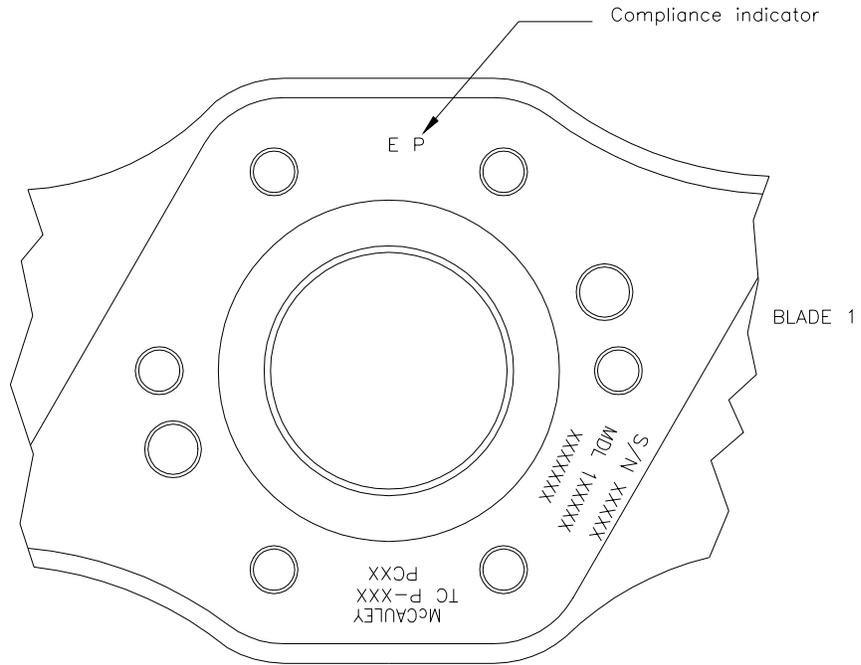

Figure 2
G. Stamp propeller hub with compliance indicator "P" at initial inspection per Figure 2 using 0.125 inch (3.18 mm) round bottom steel stamp. Stamp applicable number after letter "P" to indicate second ("2") and additional ("3", "4" etc.) inspections. Compliance indicator is to be stamped 180° from "McCauley" stamping. Propeller may have previous compliance indicator "E" stamped on the hub, stamp new indicator after the "E", if present.